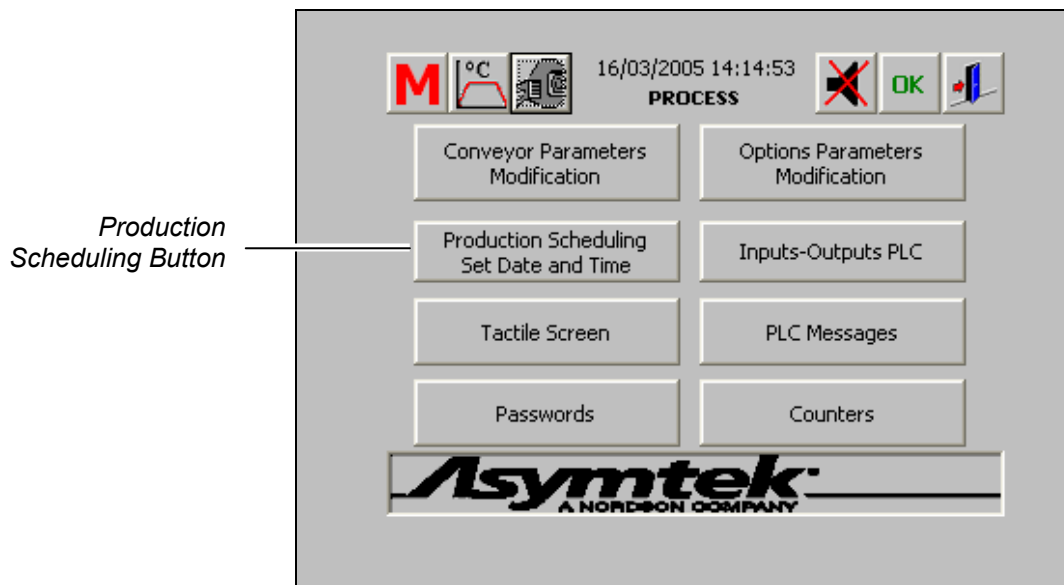

Figure 6-35 Control Menu – Production Scheduling
1. To set the production scheduling time, from the Control Menu click on the **Production Scheduling** button (Figure 6-35).